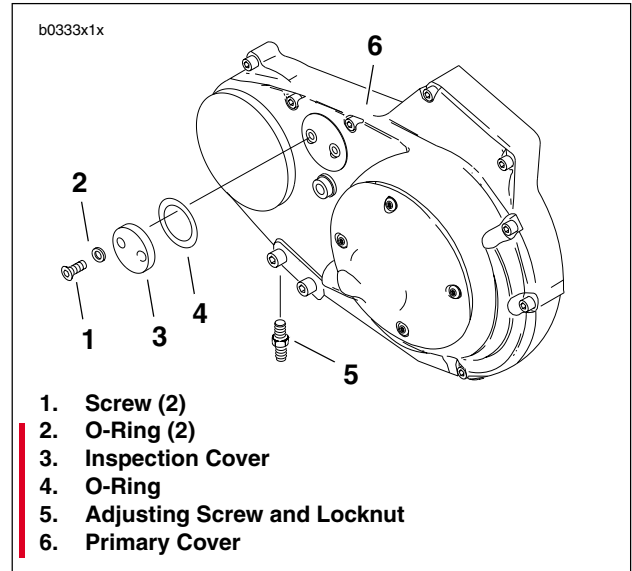
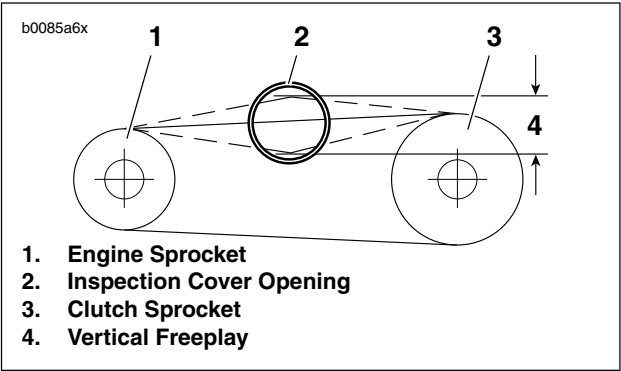

Figure 1-27.
Figure 1-28. Measuring Primary Chain Tension
See Figure 1-27. Measure primary chain tension through the inspection cover (3) opening. Adjust primary chains not meeting vertical freeplay specifications.
1. See Figure 1-27. Remove two screws (1) and O-rings (2).
2. Remove inspection cover (3) and O-ring (4) from primary cover (6).
3. See Figure 1-28. Check primary chain tension by measuring vertical freeplay (4).
- a. Measure vertical freeplay through inspection cover opening (2).
5. See Figure 1-27. Install O-ring (4).
6. Fasten inspection cover (3) to primary cover (6) using two screws (1) with O-rings (2). Tighten to 40-60 in-lbs (5-7 Nm).